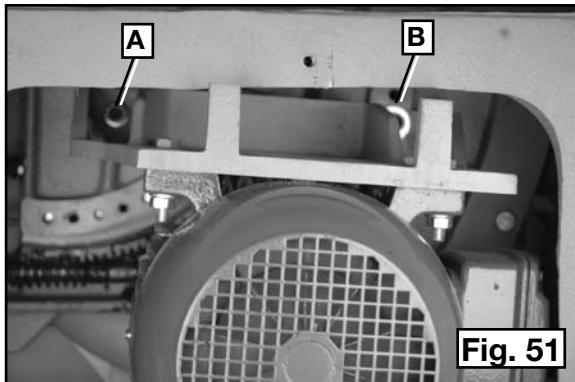

Fig. 51
2. Loosen the bolt (A) Fig. 51 and remove the bolt (B).